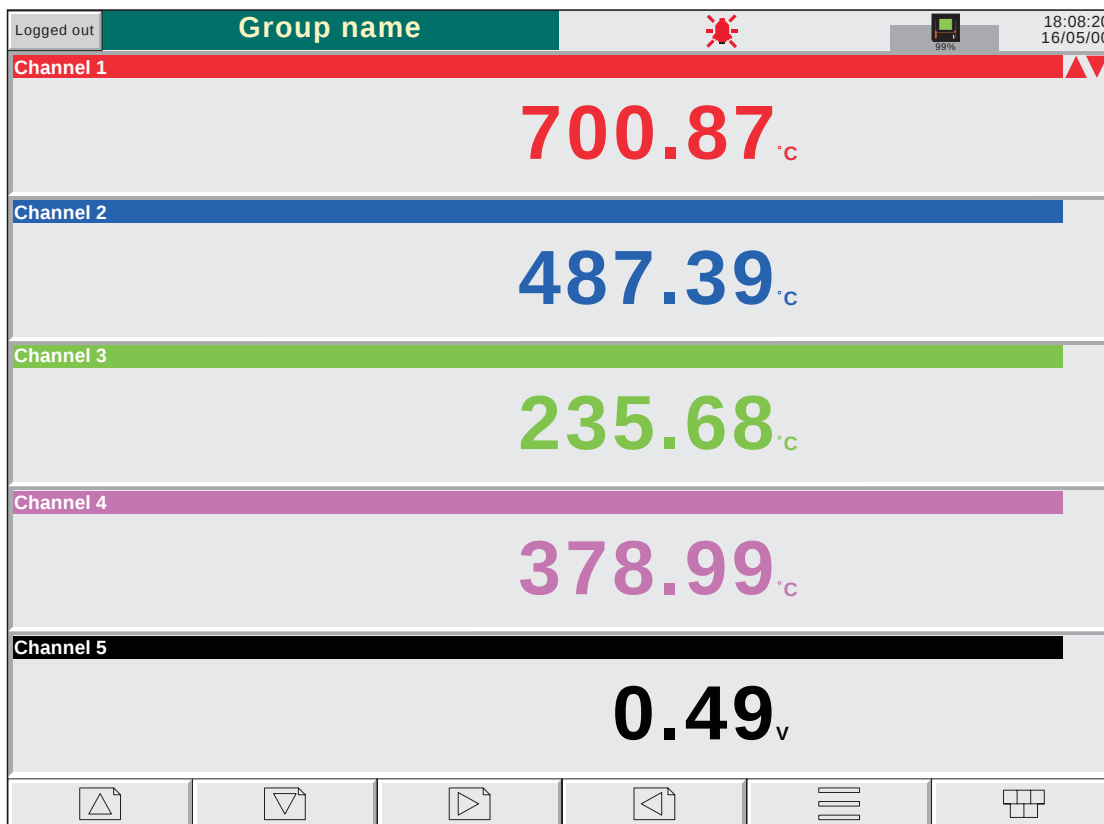

Figure 3.4.5a Numeric display mode (1 to 5 channels)
Entered from Horizontal bargraph mode by means of the down arrow key, or selected using the Root Menu 'Goto View' key, this display mode shows the Process Variable (PV) values as digital values. The format (which is automatically selected) is based on the number of channels in the display group. Figures 3.4.5a, 3.4.5b and 3.4.5c, show typical examples of the one column (up to five channels), two column (six to 18 channels) and three column versions (19 to 24 channels) of this display mode respectively. Within each version, the process variable display areas expand or contract to fill the screen.